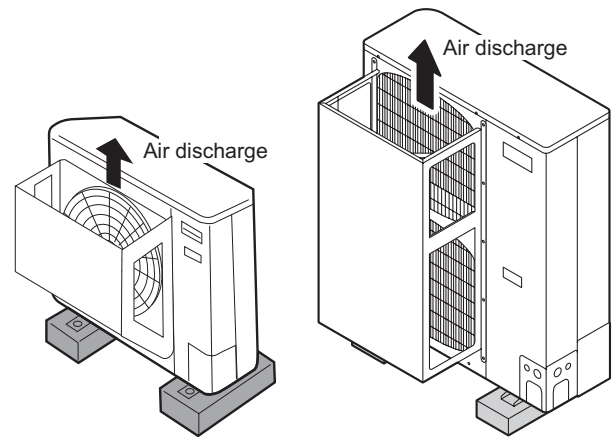

Fig. 1-9
- the air discharge outlet is facing a sidewalk and discharged hot air may bother passers-by. Refer to Fig. 1-9.